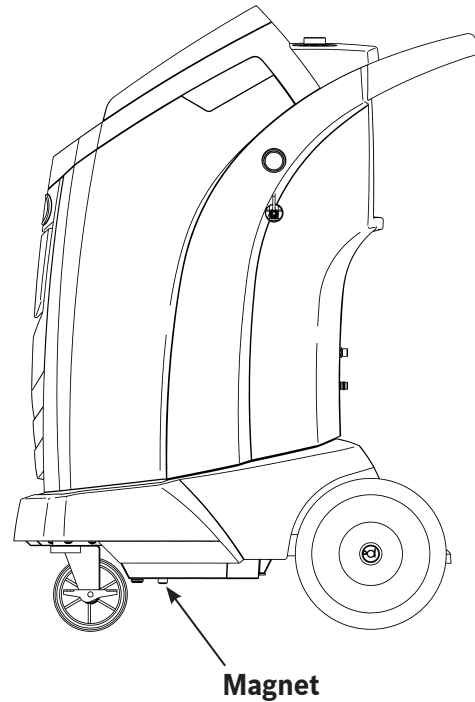

Figure 10
1. Refer to Figure 10, and verify the magnet on the bottom of the machine is clean.